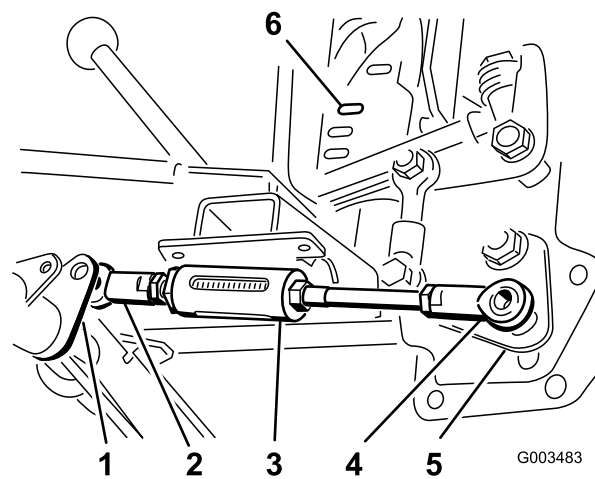

Figure 7
1. Position the ball joint of the short end of the adjustable rod assembly to the right of the adjustable rod lever on the pivot tube (Figure 7)
3. Place the ball joint on the long end of the adjustable rod assembly over the stud on the bottom on the lift handle assembly and loosely secure it with a locknut (1/2 inch) (Figure 7).